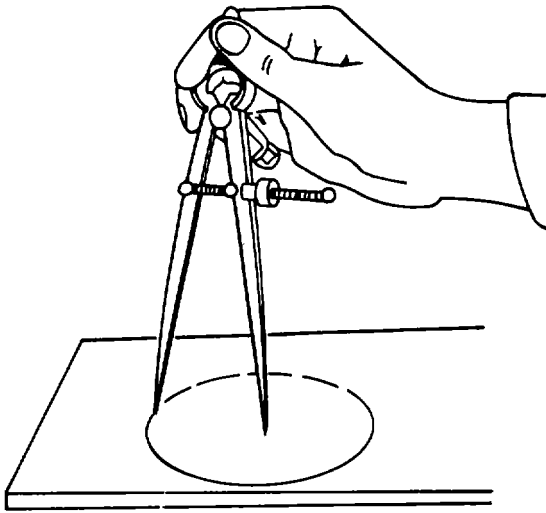

Figure 3-23. Scribing a Circle with Dividers
b. *Use of Dividers.* Dividers can be used to scribe a circle by using the following procedures (see figure 3-23):
(1) Set the desired radius on the dividers using the appropriate graduations on a rule.
(2) Place the point of one of the divider legs on the point to be used as the center.
(3) Lean the dividers in the direction of movement and scribe the circle by revolving the dividers.